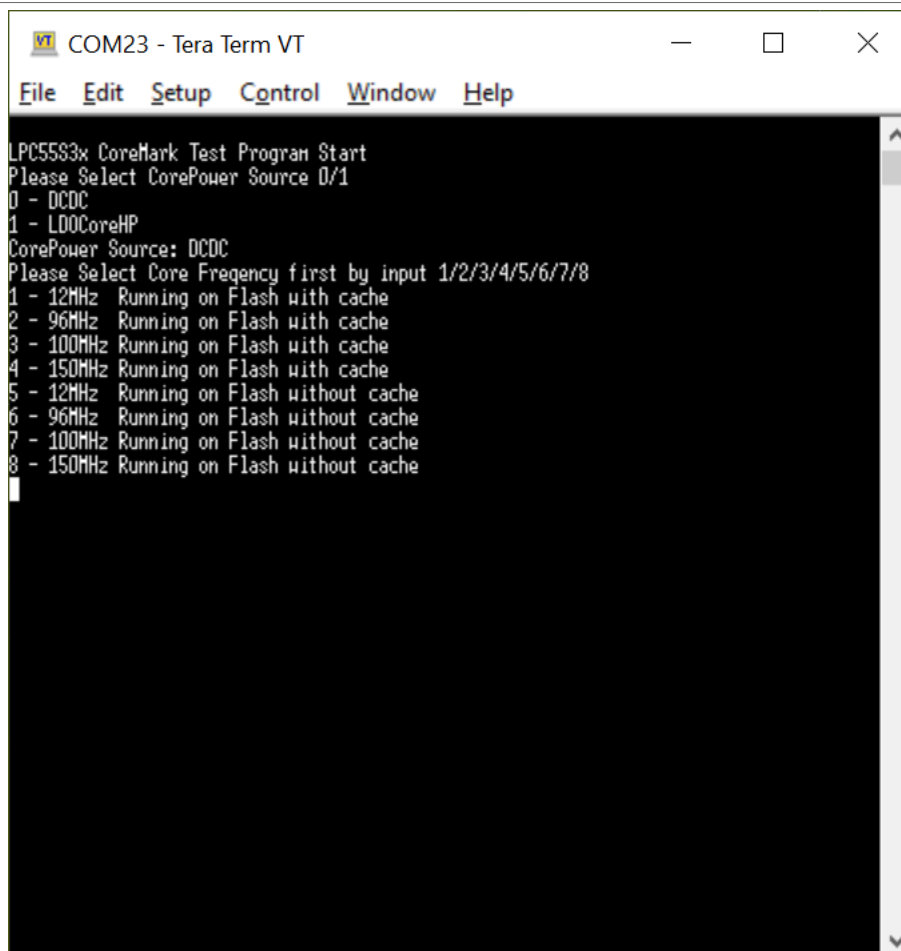

Figure 24. CoreMark test core frequency choose menu
- After inputting a character, the terminal displays the frequency selection information, as in Figure 24.